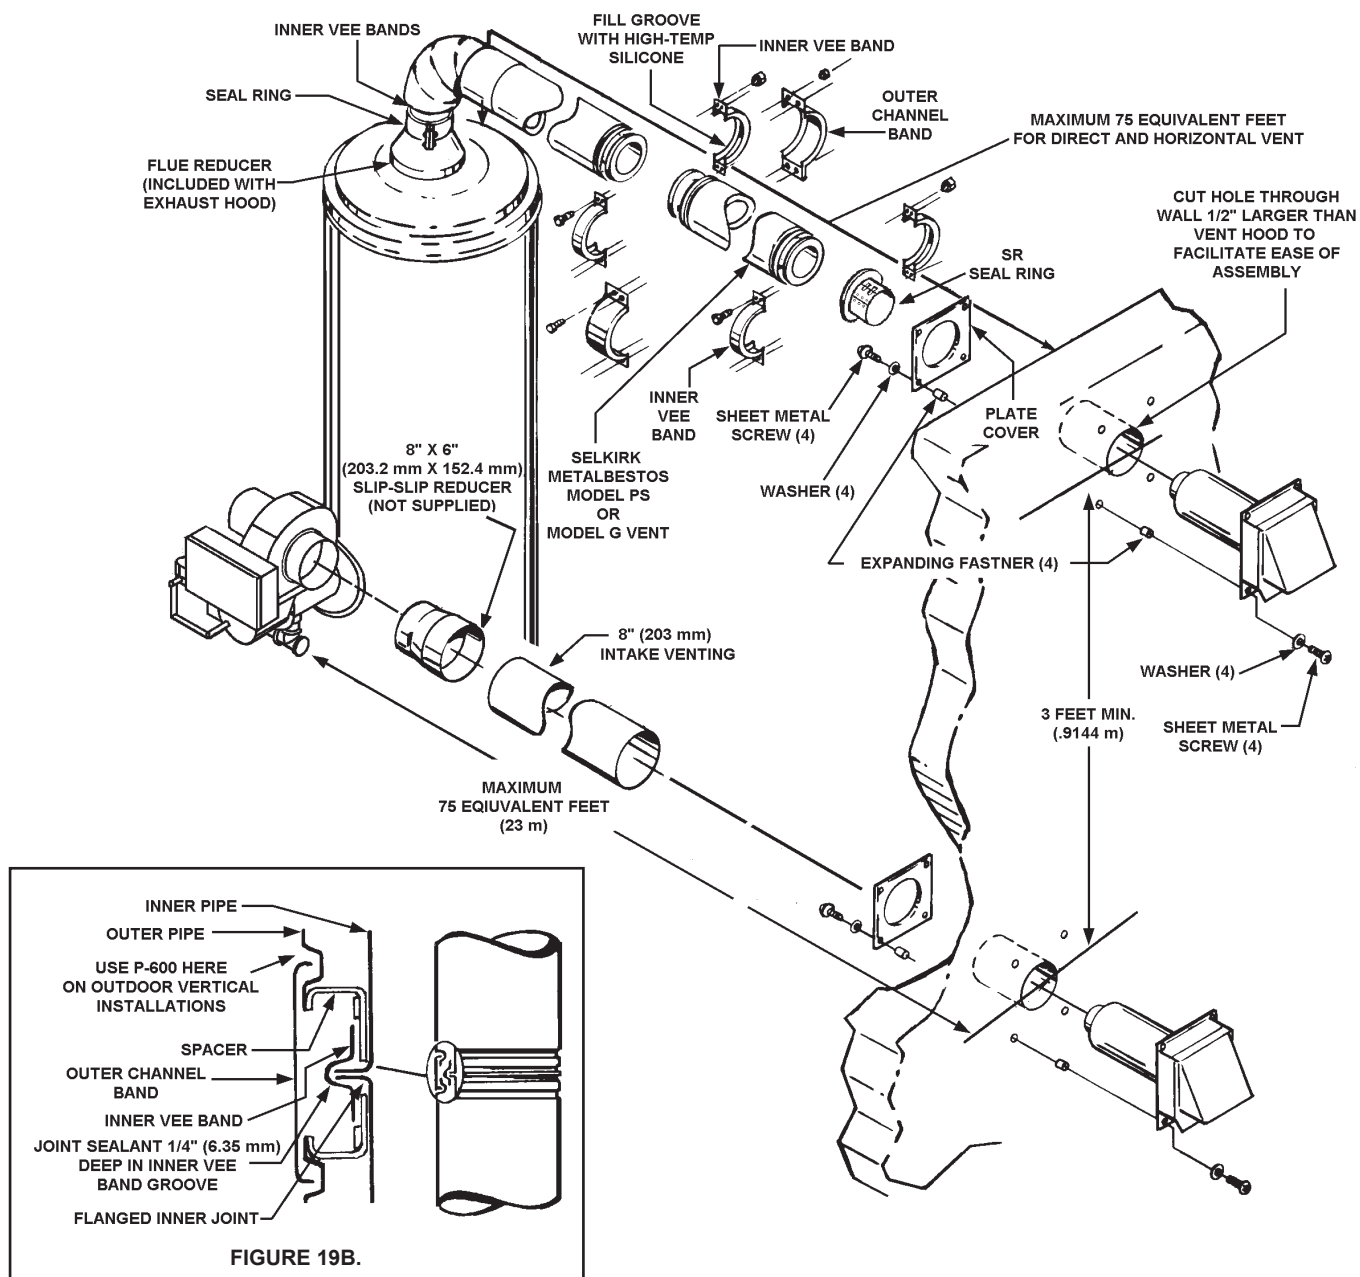

FIGURE 19.
4. Attach a seal ring (Selkirk Metalbestos Model SR or equivalent) to the vent hood collar, see Figure 19.
5. Attach a properly sized length of Selkirk Metalbestos model PS or model G venting to the exhaust vent adapter using the inner vee bands, see Figures 19 and 19B.